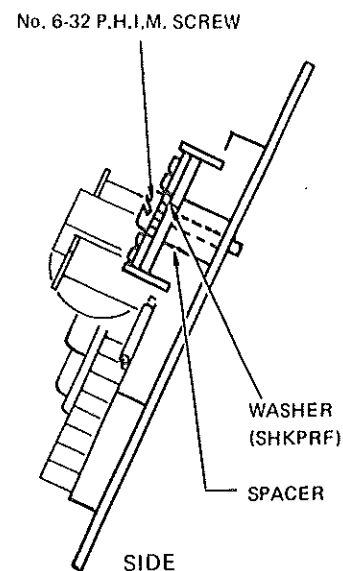

Figure 12. Polarity Guard Mounting
- b. Mount the polarity guard to the right of the network assembly (fig. 12) on the network mounting bracket with the screw supplied with the polarity guard.